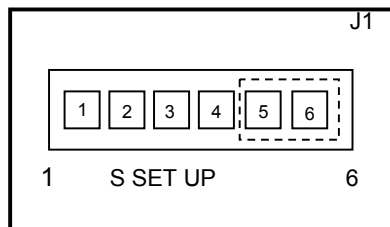

Figure 11
10. Position the jumper on pins **5** and **6** of the **J1 (S SET UP)** header. *(Refer to Figure 11).*